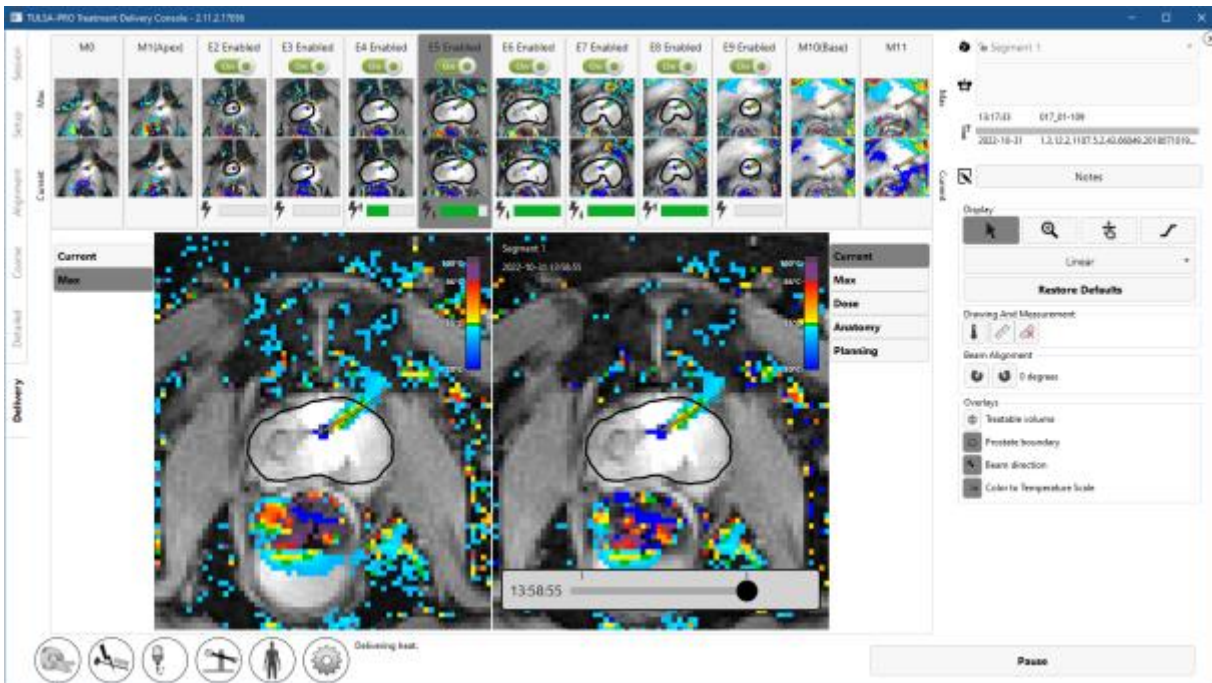
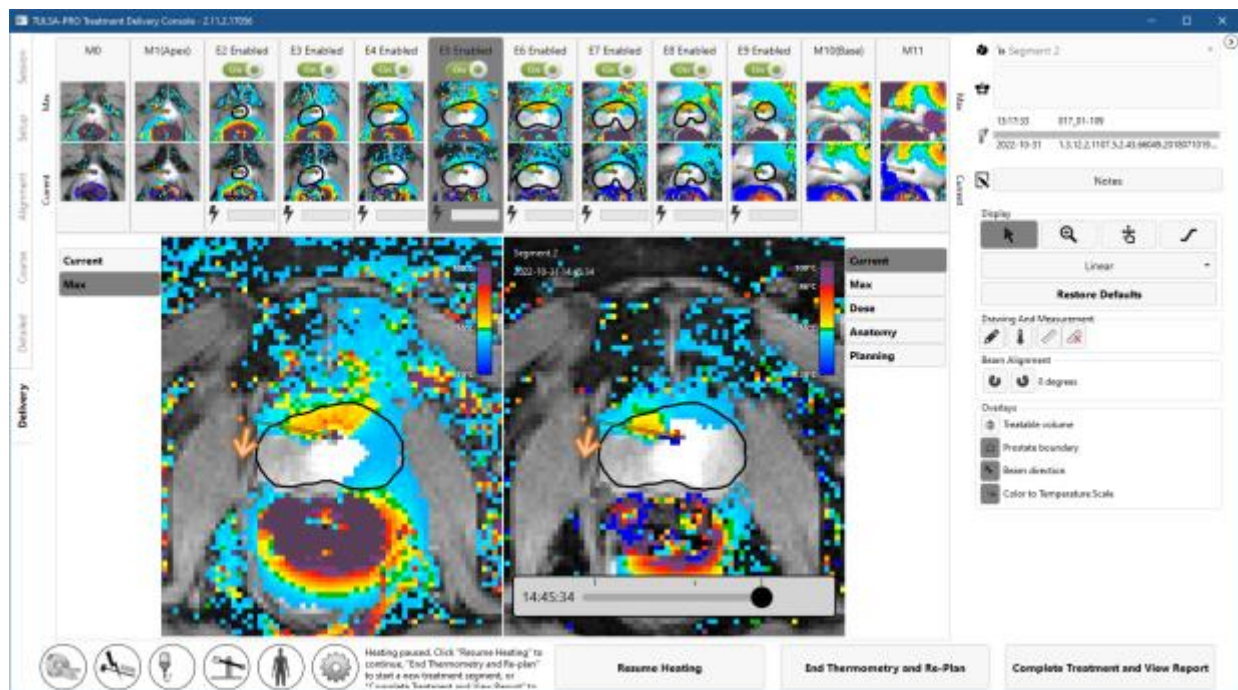

Figure 45: Ultrasound heating has begun
Figure 50: Delivery workspace with treatment and heating paused
Radiologist: After receiving 25 thermometry dynamics, heating begins (Figure 45). Throughout the ablation, actively monitor real-time treatment images on all slices, ensuring that:
**Radiologist:** At any time during Delivery, click **Pause** in the bottom-right corner of the screen (see *Figure 45*). While in the paused state, all heating from the UA is suspended while thermometry acquisition continues (*Figure 50*).